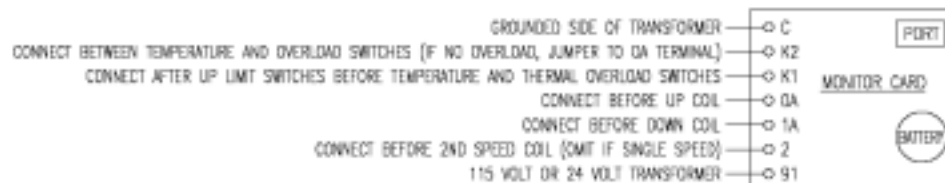

Figure 2
- 1) Review electrical schematic. See Figure 2.